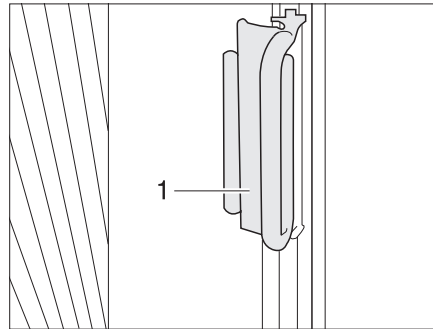

Fig. 15 Handle Roman shade for wind-screen
- Grip the Roman shades at both sides of the windscreen at the handle (Fig. 15,1) and pull carefully towards the middle of the windscreen until the magnetic catch keeps the Roman shade closed.
- Push the handle (Fig. 15,1) onto the attachment. The Roman shade is secured.